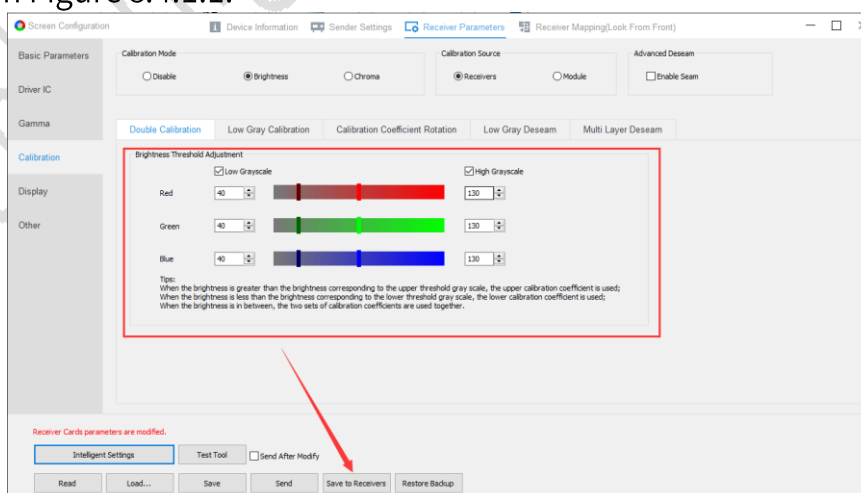

Fig 8.4.1.1 Brightness – Enable double calibration
Step 1: Go to Receiver Parameters > Calibration to enable Low Grayscale and High Grayscale under Double Calibration. Specify the threshold values under Brightness Threshold Adjustment. Then click Save to Receivers, as shown in Figure 8.4.1.1.